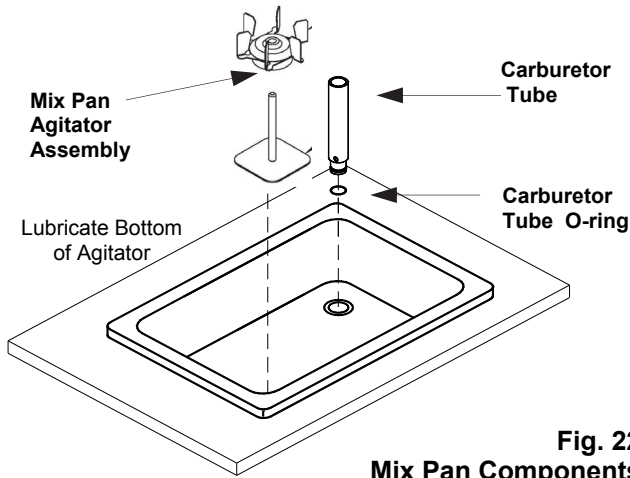

Fig. 22
3. Apply a small amount of SaniGel (p/n 1150) to the bottom of the mix pan agitator. Place the lubricated mix pan agitator into the right front corner of the mix pan. Position the mix pan agitator until you feel the magnets of the agitator engage the magnets of the drive system beneath the mix pan (Fig. 22).